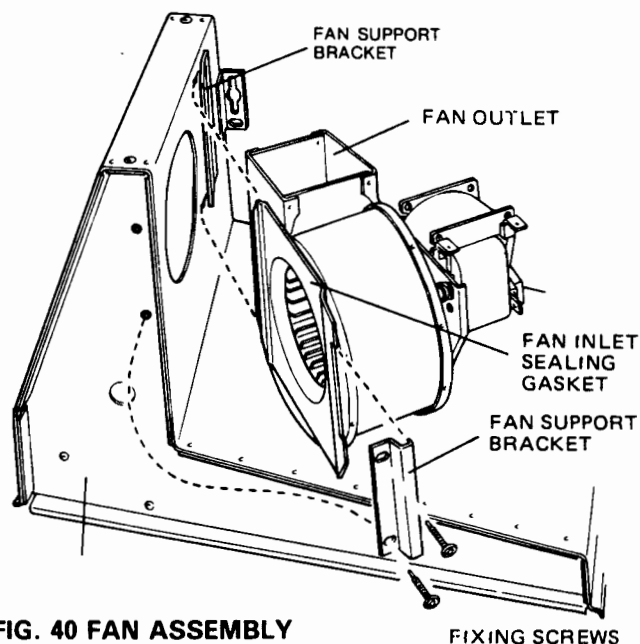

FIG. 40 FAN ASSEMBLY
30. FAN (see Fig. 40)
- b) Fit new fan into position ensure the fan is located correctly (see Fig. 40) ensuring that a good seal is made between the fan outlet and the flue. Renew gasket if damaged. Reassemble in reverse order and check that the electrical wiring and connections are not damaged.